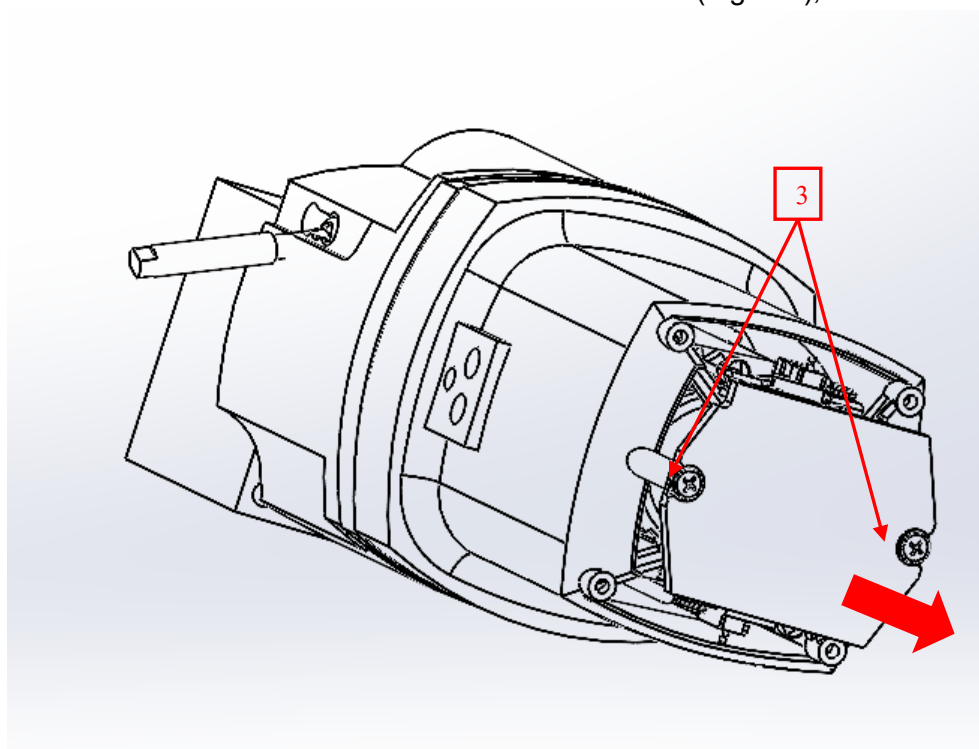

Figure 2.8
2.2.3 Unscrew the two screws as shown in figure 2.8 – position 3 and pull the motor board in the direction of the arrow (Fig. 2.8);